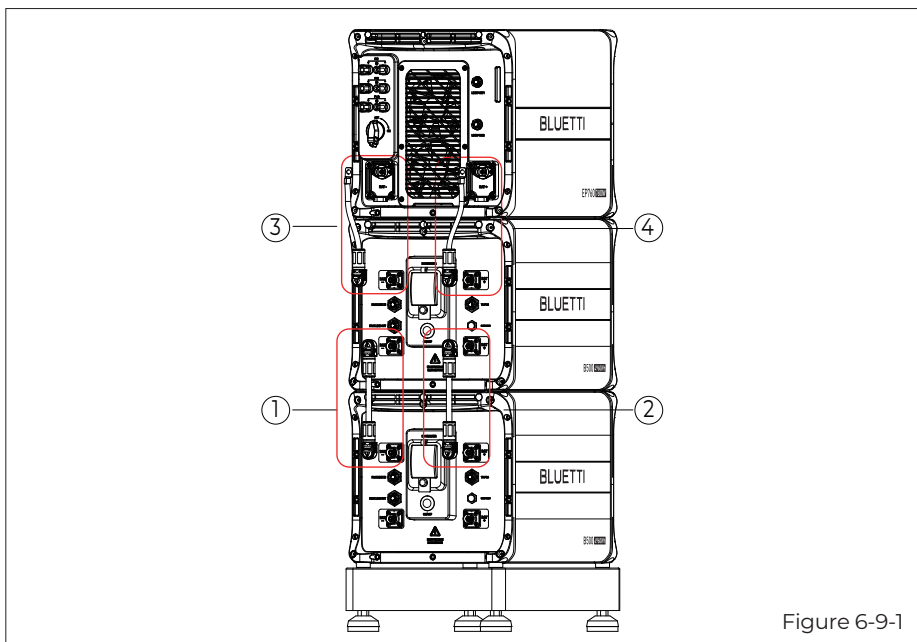

Figure 6-9-1
Step 1: Connect two B500 battery packs via the battery expansion cables - black cable for negative terminals, red for positive terminals. See “①” “②” of Figure 6-9-1 and 6-9-2.
Step 2: Connect the top B500 to EP760 inverter via the battery power cables - black cable for negative terminals, red for positive terminals. See “③” “④” of Figure 6-9-1 and 6-9-2.